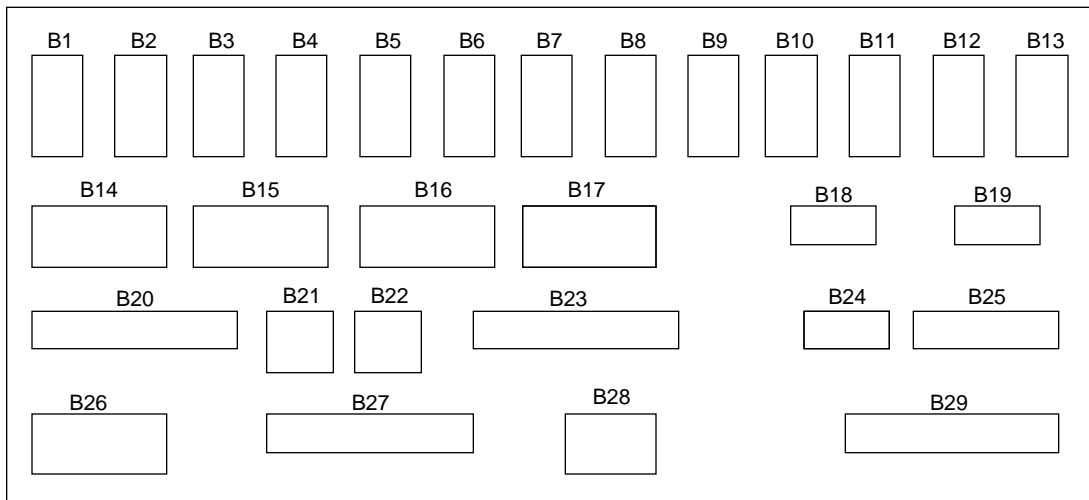

Figure 2. VME Bulkhead (Back View)
1. Remove the appropriate blank bulkhead plate that is attached to the VME bulkhead by two screws. Refer to Figure 2 for the location of the VME bulkhead.